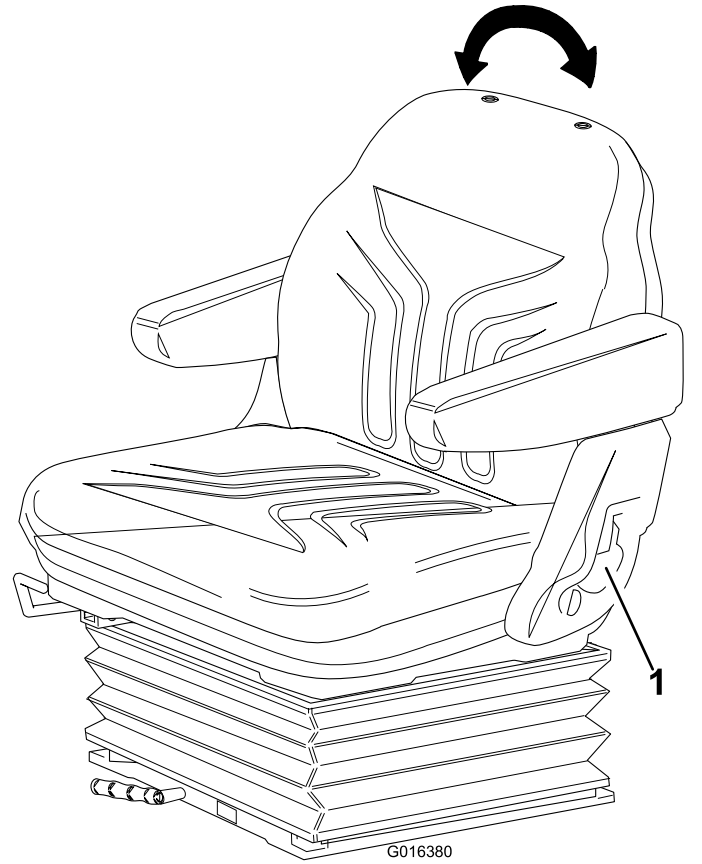

Figure 15
- **Backrest adjustment:** Pull the handle outward to adjust the seat backrest angle. Release the handle to lock the seat backrest in position (Figure 15).